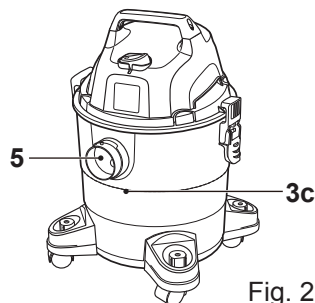

Fig. 23
- > During wet vacuuming, check the water level in the tank regularly. The water level should not go over the inside upper rim (3c), below the air inlet (5) (Fig. 23). Empty the tank (3) regularly if large quantities of water are to be vacuumed.